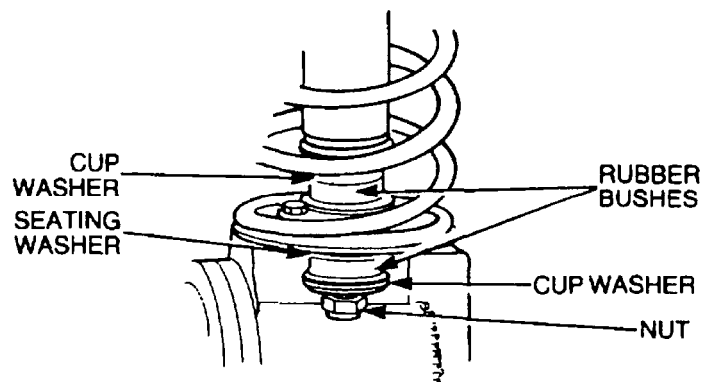

Figure 123 Front Shock Absorber Removal
- e. Remove the nut securing the shock absorber to the axle casing (Figure 123).